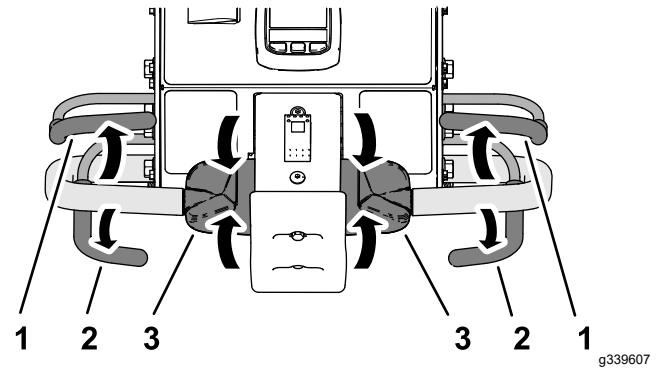

Figure 86
1. If you are aerating, release the aerate bail (Figure 86) to raise the coring head; refer to Raising the Coring Head \(page 46\).